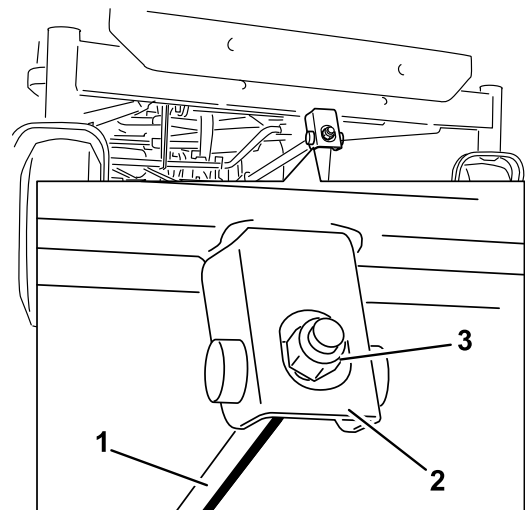

**Figure 55**
4. Carefully rotate the blades so they are facing front to rear (Figure 55).
5. Measure from the tip of the front blade to the flat surface and the tip of the rear blade to the flat surface (Figure 55). If the front blade tip is not 1.6-7.9 mm (1/16-5/16 inch) lower than the rear blade tip, adjust the front locknut.
8. After adjustment, check the front-to-rear slope again. Continue adjusting the nut until the front blade tip is 1.6-7.9 mm (1/16-5/16 inch) lower than the rear blade tip (Figure 55).